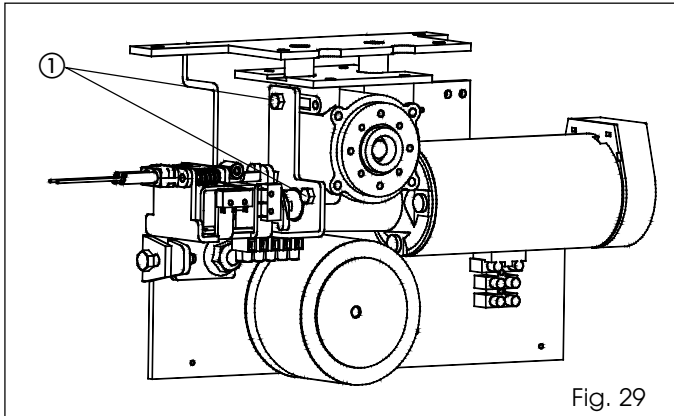

Fig. 29
- Secure the motor lock with the two supplied bolts as shown in fig. 29 ref. ①.